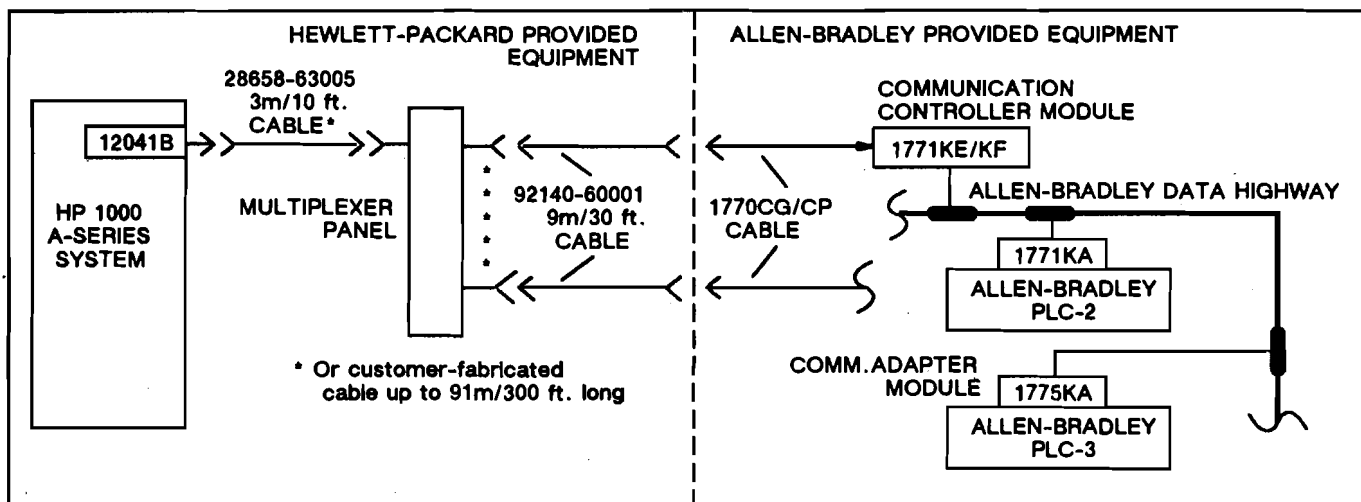

Figure 2-4. Connection of Allen-Bradley PLCs to HP 1000 A-Series Systems
**Allen-Bradley:** PLC, PLC-2, and PLC-3 families connected as shown in Figure 2-4 when the HP 94202A Allen-Bradley PLC Device Handler is configured with the HP 94200B PCIF/1000 Configurator/Monitor.
- Cables to PLC hardware (Fig. 2-4 through 2-8).